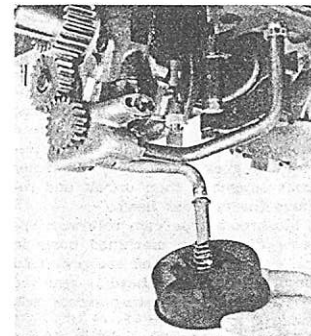

Fig. 93—On three cylinder models, oil pump mounts on front main bearing cap as shown.
94. The rotary type oil pump is mounted in front main bearing cap and driven from the crankshaft timing gear through an idler as shown in Fig. 93.